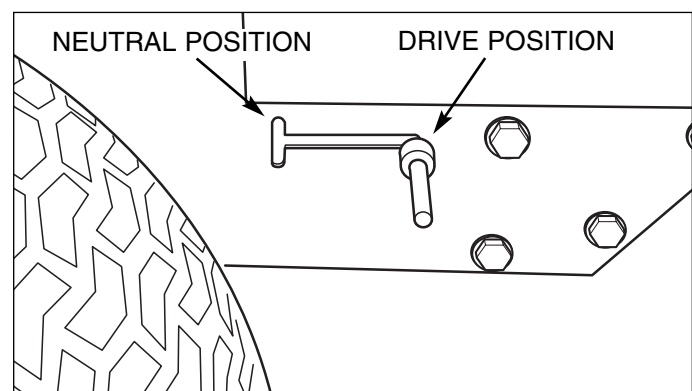

Figure 2. Hydraulic Release Rod
- Slide the hydraulic release rod forward and lock into the top of the "T" slot. See Figure 2.